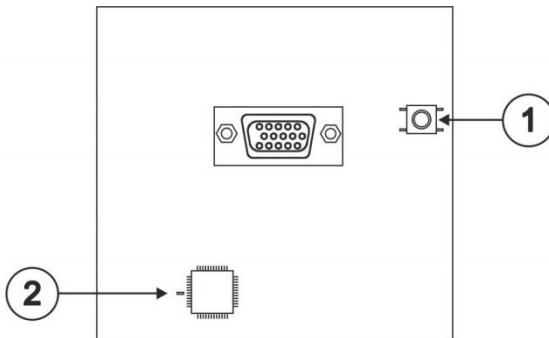
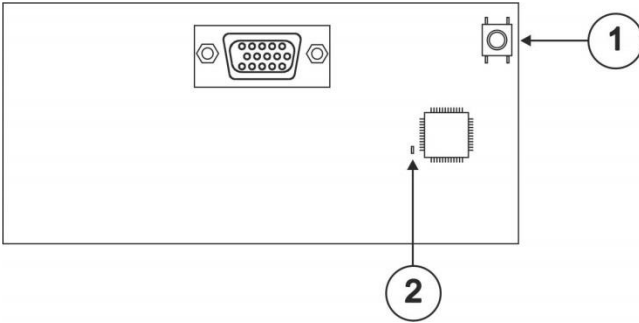

Figure 5: WP-110xl US Wall Plate
Figure 6: WP-110xl EU Wall Plate
4. Press the EDID capture button (item 1 on Figure 5 and Figure 6).
The EDID status LED (item 2 on Figure 5 and Figure 6) flashes slowly several times. The new EDID is captured when the LED stops flashing and lights solid.
The EDID status LED (item 2 on Figure 5 and Figure 6) flashes quickly for a few seconds and then stays on solid.